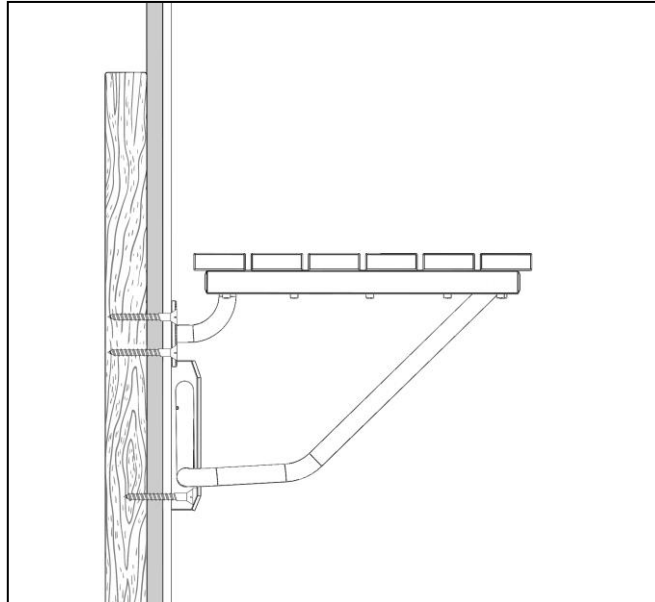

Figure 3
4. Adjust the position of the **Guide bracket (part # 05)** on the wall to align with your holes. Attach the **Guide bracket (part #05)** to the wall using 4 of the **ST5 x 70mm Screws (06)**. Fully tighten all screws and test the operation of the seat. The seat is now ready for use. (See Fig. 3)